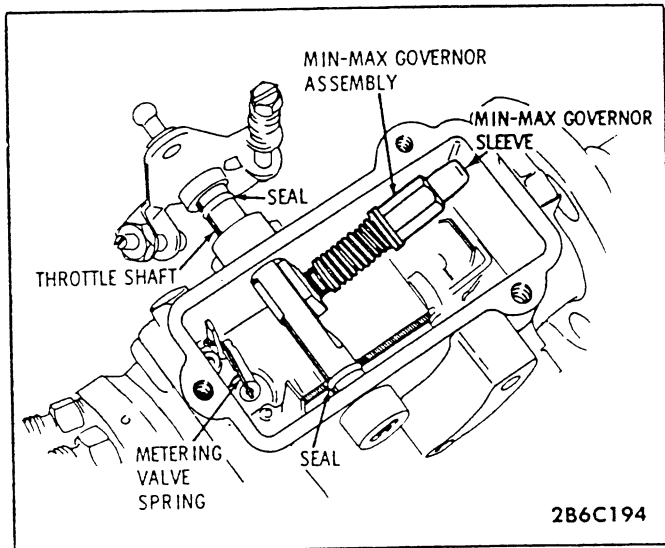

Fig. 6C5-34 Injection Pump Cover Removed
11. Rotate the min-max governor assembly up to provide clearance and remove from the throttle shaft (Fig. 6C5-34).